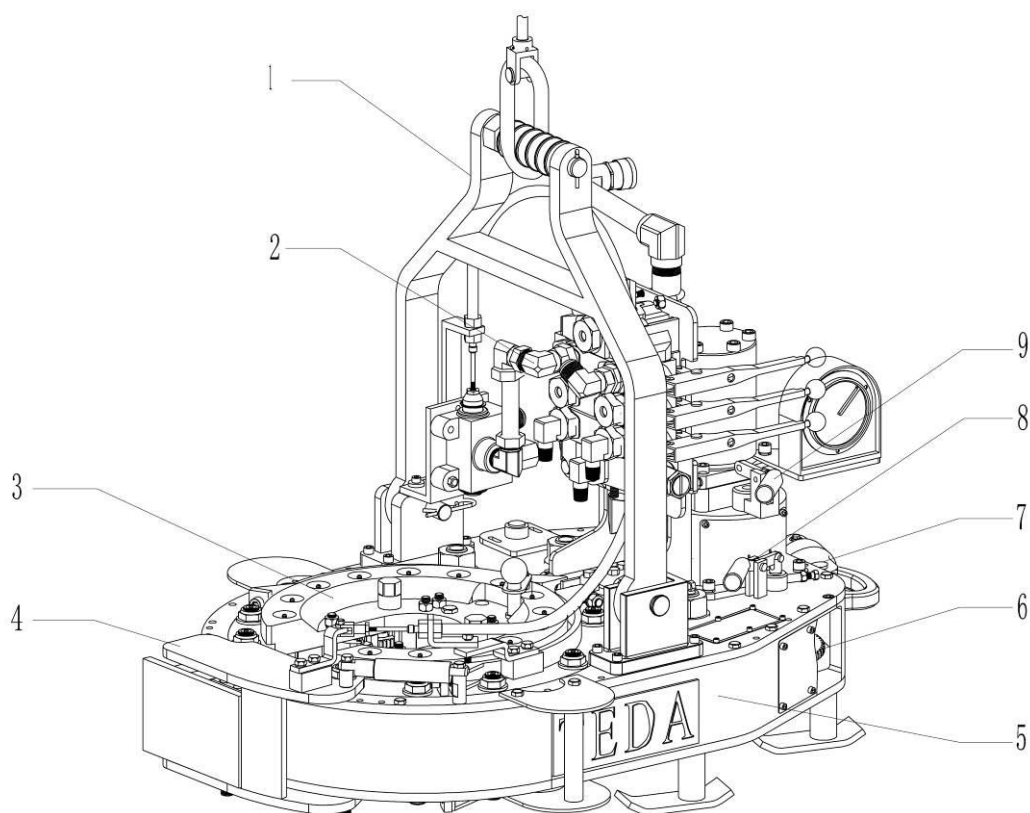

Fig. 7-2
2. Assembly of master tong (Fig 7-2, Table 2)